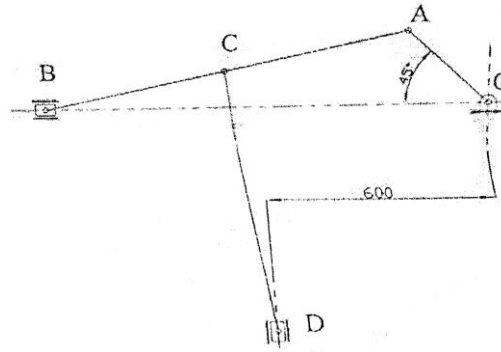

Fig. 2
Q.3 The lengths of various links of mechanism as shown in fig.2 are  $OA = 300\text{mm}$ ,  $AB = 1000\text{mm}$ ,  $CD = 800\text{mm}$  &  $AC = CB$ . Determine, for the given configuration the velocity of the slider D if the crank OA rotates at 60 rpm in the clockwise direction Also find the angular velocity of the link CD. Use instantaneous center method